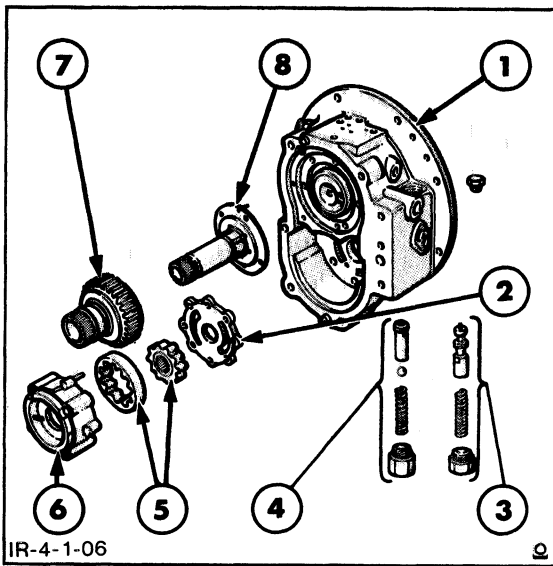

FIGURE 4-171
4. Remove the hydraulic pump retaining bolts and lift the pump assembly from the distributor housing, Figure 4-171.
5. Remove the by-pass valve plug and extract the shim, spring ball and valve, Figure 4-171.